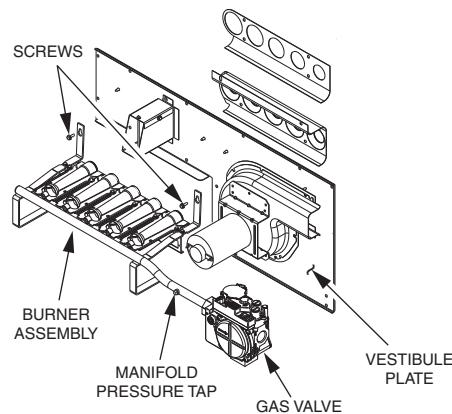

Fig. 32 — Heat Exchanger Assembly
1. Remove the combustion blower wheel and motor assembly according to directions in “Combustion-Air Blower” section. (See Fig. 32.)
1. Remove the 7 screws that attach induced-draft motor housing to vestibule plate. (See Fig. 32.)
6. Remove the 2 screws that attach the burner rack to the vestibule plate. (See Fig. 32.)